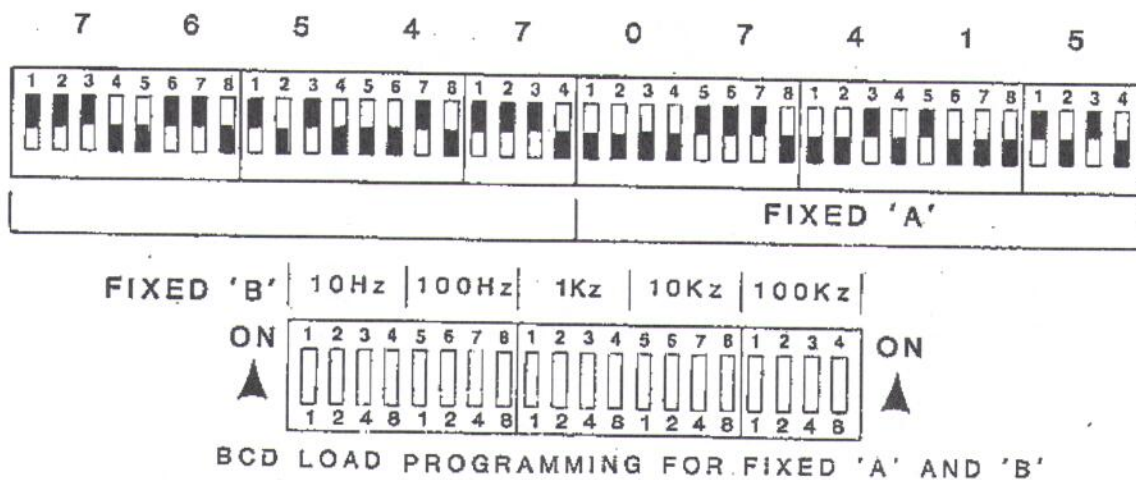

Figure 3-3 Programming For 7-Line
| (8) See fig. 3-3(a) | See fig. 3-3(b) |